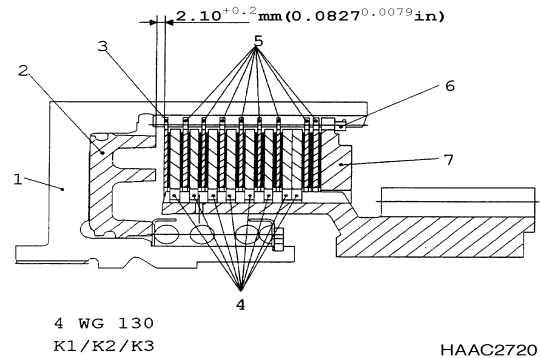

Figure 192
NOTE: Stacking of clutch plates K1, K2 and K3 is identical. Figure 192, shows the installation position of the components.
9. Install plate pack according to Figure 192.